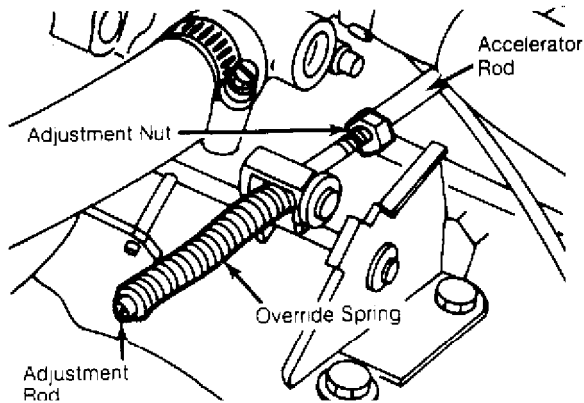

Fig. 3: Adjusting Accelerator Rod (Vanagon)
3) Loosen adjustment nut. Remove override spring. See Fig. 3. Start engine. Adjust idle speed if necessary. Turn engine off.